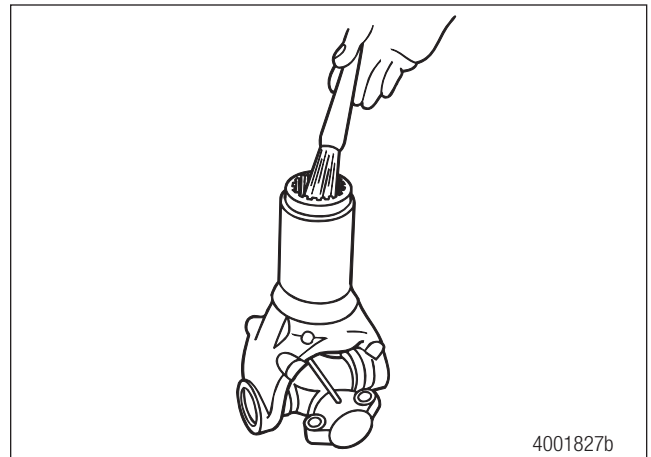

Figure 5.42
2. Use a brush to distribute lubricant on the splines. Figure 5.42.